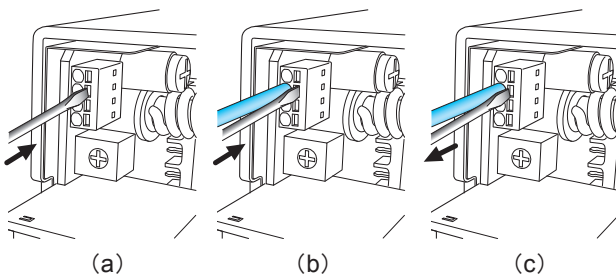

Fig.6.9 Connecting method of Stranded wire
Step1: Insert a flat-blade screwdriver into the release hole. (Refer to the fig.6.9(a).)
Step2: Insert the wire until the electrode is not visible with the flat-blade screwdriver inserted in the release hole. (Refer to the fig.6.9(b).)
Step3: Remove the flat-blade screwdriver from the release hole. (Refer to the fig.6.9(c).)